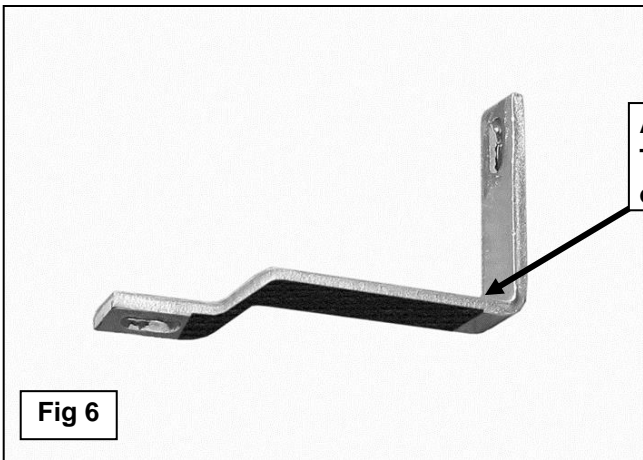
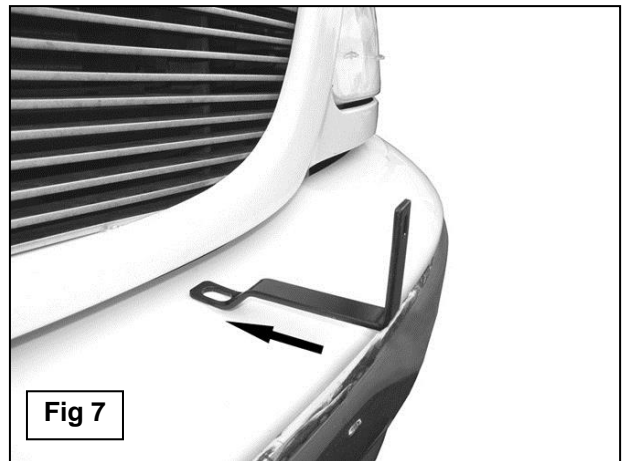

Fig 6
Fig 7
5. Select (1) Top Mounting Bracket. Apply a section of Adhesive Backed Foam Tape to the bottom of the Bracket to protect the finish on the top of the bumper cover, (**Figure 6**). Insert the Bracket through the opening in the bottom of the grille, (**Figures 7 & 8**). **NOTE:** It is also recommended to cover the bumper with masking tape to prevent damage to finish during Grille Guard installation.